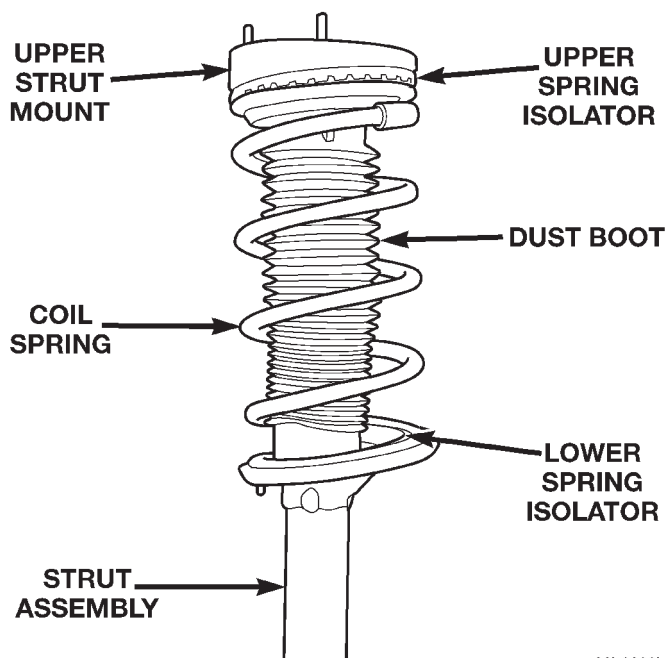

**Fig. 2 Strut Assembly Inspection**
(1) Inspect for damaged or broken coil springs (Fig. 2).
(2) Inspect for torn or damaged strut assembly dust boots (Fig. 2).
(3) Inspect for damaged upper and lower spring isolators (Fig. 2).